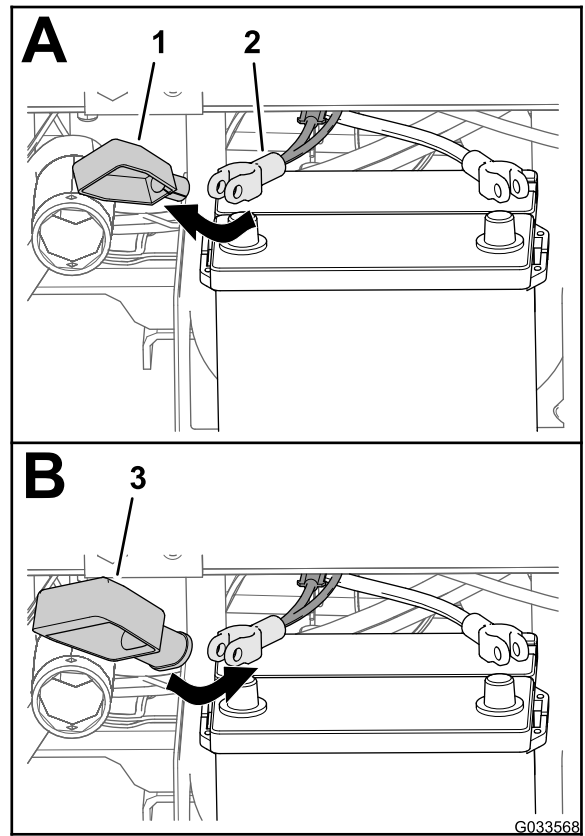

Figure 28
2. Remove the cover (narrow) from the positive battery cable (Figure 28).
3. Install the wide battery cover over the positive battery cable as shown in Figure 28.